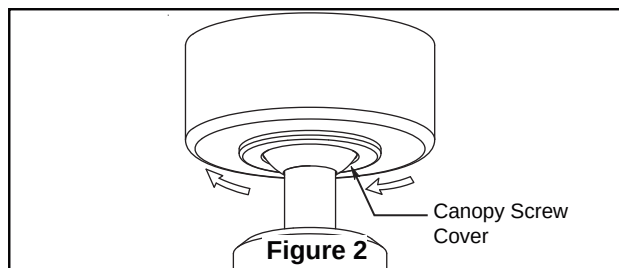

Figure 2
2. Securely attach and tighten the canopy screw cover over the shoulder screws in the hanger bracket utilizing the keyslot twist-lock feature. (Figure 2)